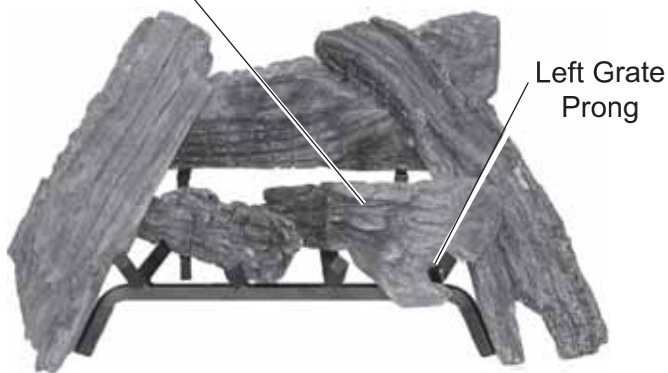

Figure 73 - Resting Top Right Log (#4) on Bottom Left Log
5. Rest right end of Top Right Log #4 on bottom right log. *See Figure 73.*